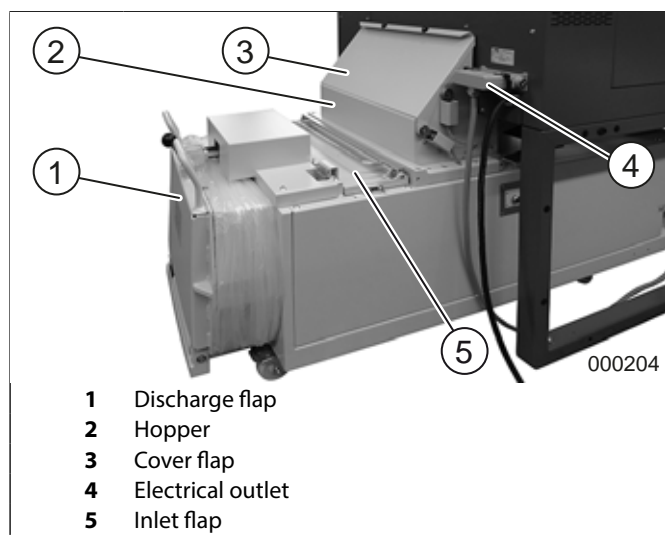
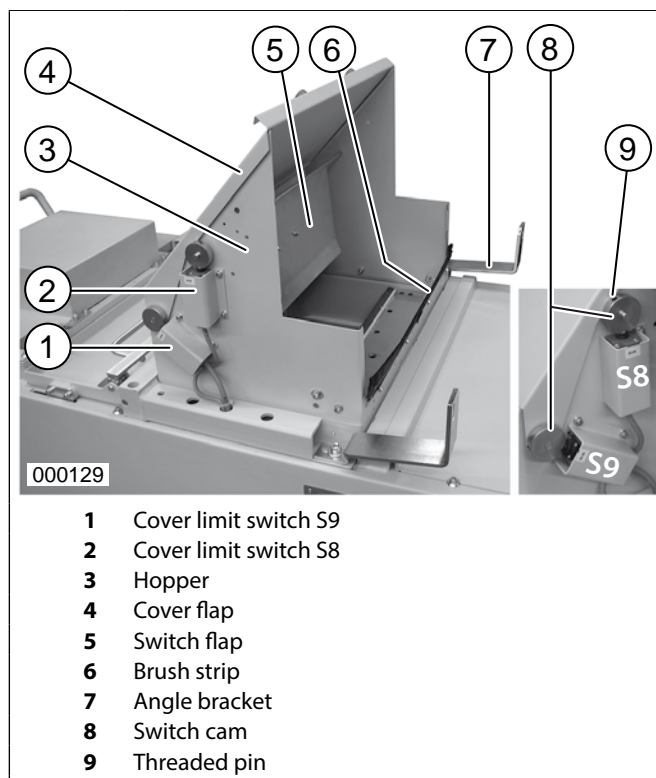

fig. 1 Flaps and hopper
fig. 2 Hopper
1. Release the transport lock (binder) on the outlet flap (fig. 1/1) and fold the flap down.
2. Take the hopper (fig. 1/2) out of the press compartment, as shown, place over the filler opening and fix to the press from inside with the aid of the 7 hexagon socket screws M6x12.
3. Swivel the brush strip (fig. 2/6) on the hopper up until the brush is pointing in the direction of the press compartment. Fix the brush strip to the hopper in this position with the two M6x16 hexagon socket screws and washers provided (use upper hole for fixing).
4. Remove both switch covers (fig. 2/1+2). Fix the limit switch S8 with 2 screws M4x40 and nuts M4 below the switch cam of the switch flap (fig. 2/8). Undo the threaded pin (fig. 2/9) (Allen key 2.5 mm), turn the cam into position and tighten the threaded pin again.
5. Fix the limit switch S9 with 2 screws M4x40 and nuts M4 under the switch cam of the cover flap (fig. 2/4). Undo the threaded pin (fig. 2/9) (Allen key 2.5mm), turn the cam into position and tighten the threaded pin again.
6. Position the two switch covers (fig. 2/1+2) over the limit switches and fix each to the hopper with two screws M5x16 and nuts M5.
7. Open cover flap (fig. 2/4). Check/correct position of security angle (fig. 3):
1. Push the baler under the shredder. Screw the shredder and the baler together with the aid of the two fixing brackets (fig. 2/7) provided with the shredder (fig. 1).
4. Insert and secure the connecting plug of the baler in the electrical outlet (fig. 1/4) at the housing rear panel.